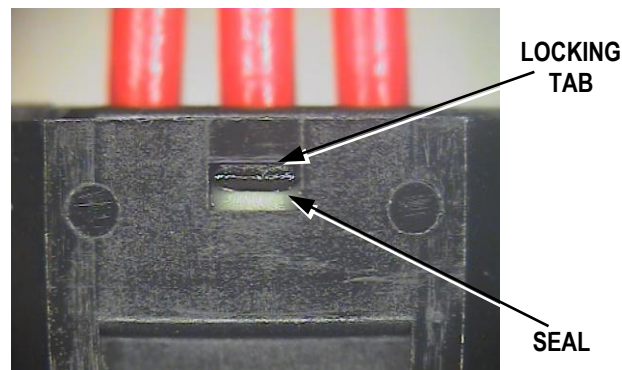

Figure 7
- Continue squeezing the handles until the cap latches over the locking tabs on both sides of the housing assembly. See Figure 7.